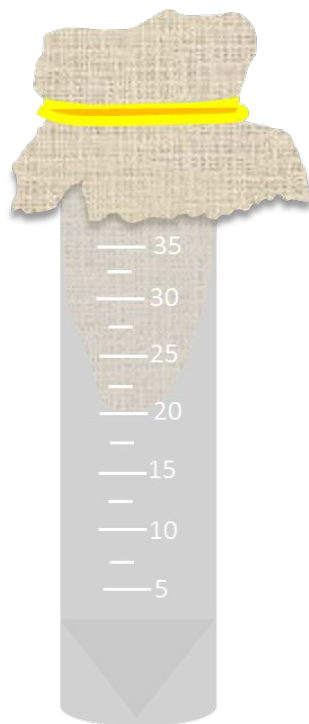

Figure 9: How to create a cheesecloth filter. Push the unfolded cheesecloth into the tube and secure it with a rubber band.
7. Create a filter by placing the center of the cheesecloth over the mouth of the standing test tube and pushing it into the tube to approximately the 20 mL mark (Figure 9).
8. Secure the cheesecloth with a rubber band around the top of the test tube (Figure 9).